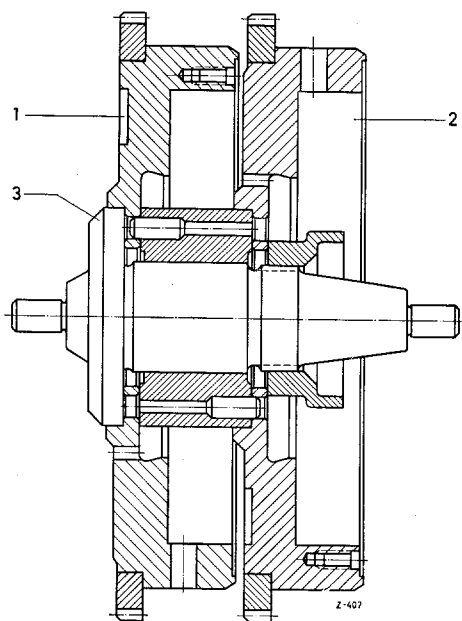

Figure 03-8/1
2. Now, place the arbor with the two flywheels onto the revolving stand, part No. 000 589 15 21 or on two knife-edge straight edges, the upper edges of which must be exactly in level position, and allow it to balance out (Figure 03-8/2 and 03-8/3).